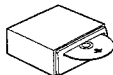

Fig. 53
- Do not leave the disc halfway into the unit as shown below. Doing so may cause the disc to be bent or dropped (Fig. 53).